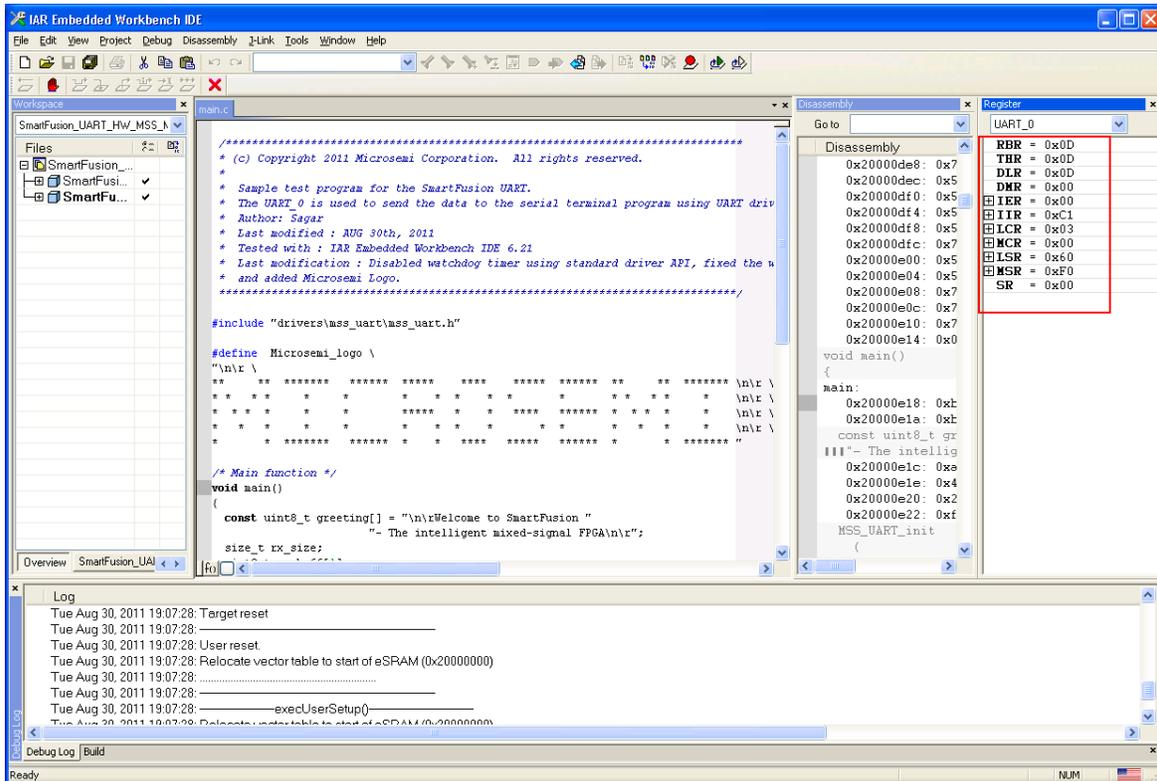

Figure 42 · Viewing UART_0 in the Registers Pane
7. The UART registers are displayed, as shown in Figure 42 . .